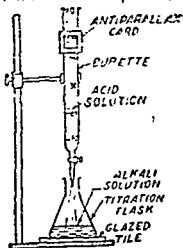

Fig. 18'1.
1. Problems based on Volumetric Analysis.—All volumetric experiments are based on one chemical reaction or the other. The reactants are taken in the form of solutions and made to react. A known volume of one solution is measured with a pipette and taken in a conical flask. The other solution is taken in a burette (Fig. 18'1) and run into the first solution till the chemical reaction is just complete. The volume of the second solution is read from the burette and the two volumes are compared.